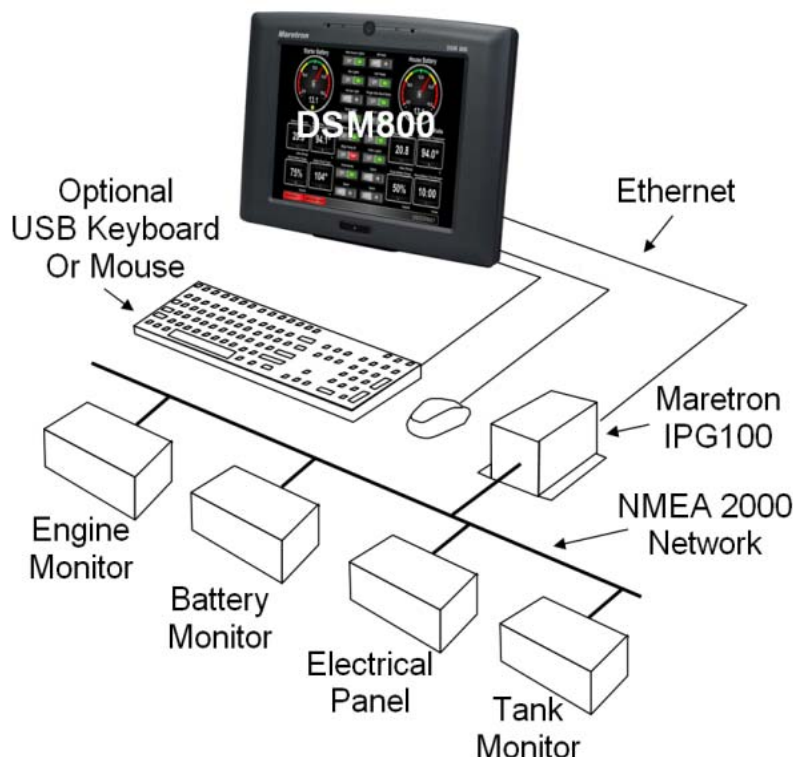

Figure 1 – DSM800 Network Diagram
As an alternative to controlling the DSM800 through the touch screen, the DSM800 includes two USB ports for connecting keyboards, mice, or trackballs. The DSM800 also has an Ethernet port for communicating with an NMEA 2000® network (see Figure 1) through Maretron's Internet Protocol Gateway (IPG100). Alternatively, the DSM800 can network through Ethernet to a PC running N2KServer®. Although the DSM800 comes pre-installed with the N2KView® software, a separately purchased N2KView® hardware license key plugged into the IPG100 (or PC) is required (see IPG100 User's Manual for more details). The Ethernet port is also used for connecting Internet Protocol (IP) cameras for viewing within the N2KView® software.